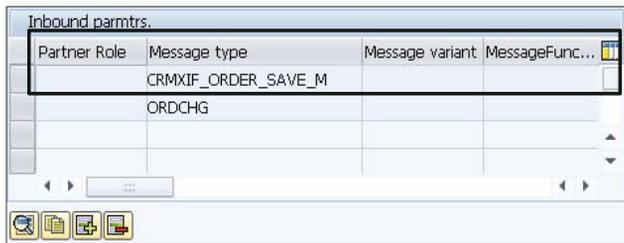

Figure 3.42 Inbound Parameters – Message Type CRMXIF_ORDER_SAVE_M
- Create the partner profiles for the sender partner via Transaction WE20. Assign the MESSAGE TYPE CRMXIF_ORDER_SAVE_M to the INBOUND PARMTRS. (see Figure 3.42).